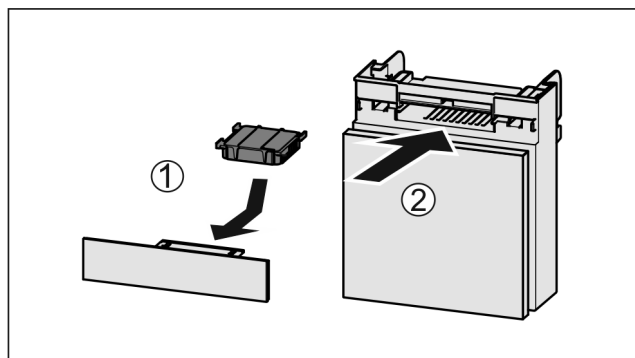

Fig. 203
- Insert the carbon filter as shown in the diagram Fig. 203 (1).
- Push the compartment in Fig. 203 (2).